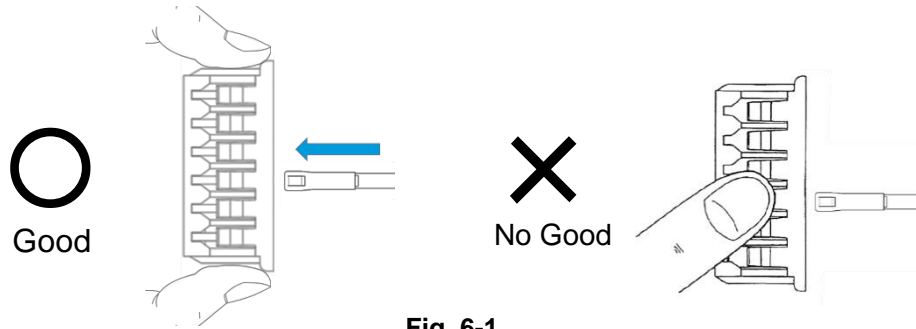

Fig. 6-1
- ※ Don't hold on mold lance when you insert crimping wire to receptacle housing. **(Fig.6-1)**